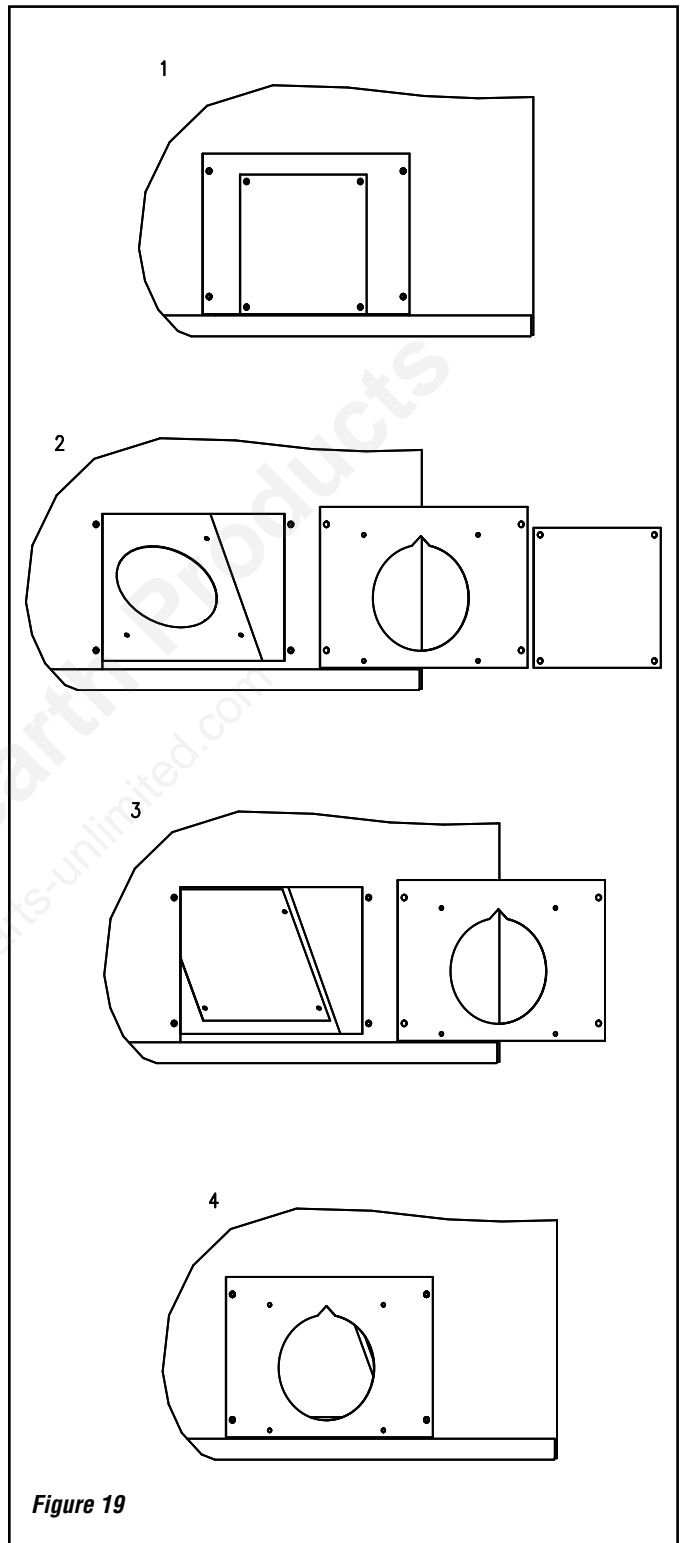

Figure 19
1. Remove the obstruction plate and the access plate (both are superimpose) located on the bottom of the left side (Figure 19, part 2).
2. Screw the obstruction plate inside the primary air box using only two screws on the bottom (Figure 19, part 3).
3. Reinstall the access plate exposing the 5" diameter hole topped by a triangle (Figure 19, part 4).